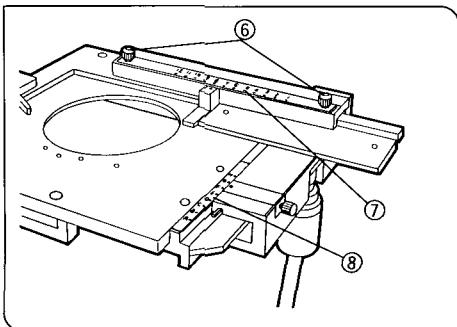

Fig. 15
1. Loosen the two clamping knobs (6) at the top of the stage's X-axis guide. Positioning the scale numerals correctly, place the X-axis scale (7) on the guide. Then tighten the clamping knobs. (Fig. 15)
2. Positioning the scale numerals correctly, place the Y-axis scale (8) on the top of the stage's Y-axis guide. The scale will be held in place magnetically.